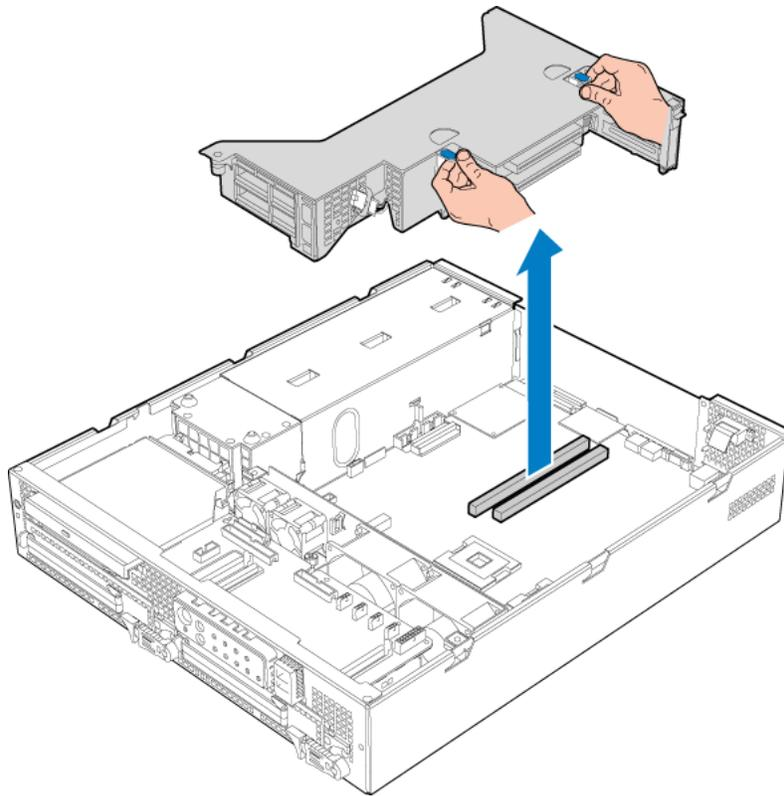

Figure 26: PCI riser card assembly
13. Hold the PCI riser assembly by the two slots marked in blue and push the assembly into the server board. Refer to Figure 26: PCI riser card assembly on page 94.
12. Hold the PCI riser assembly by the two slots marked in blue and push the assembly into the server board. Refer to Figure 26: PCI riser card assembly on page 94.